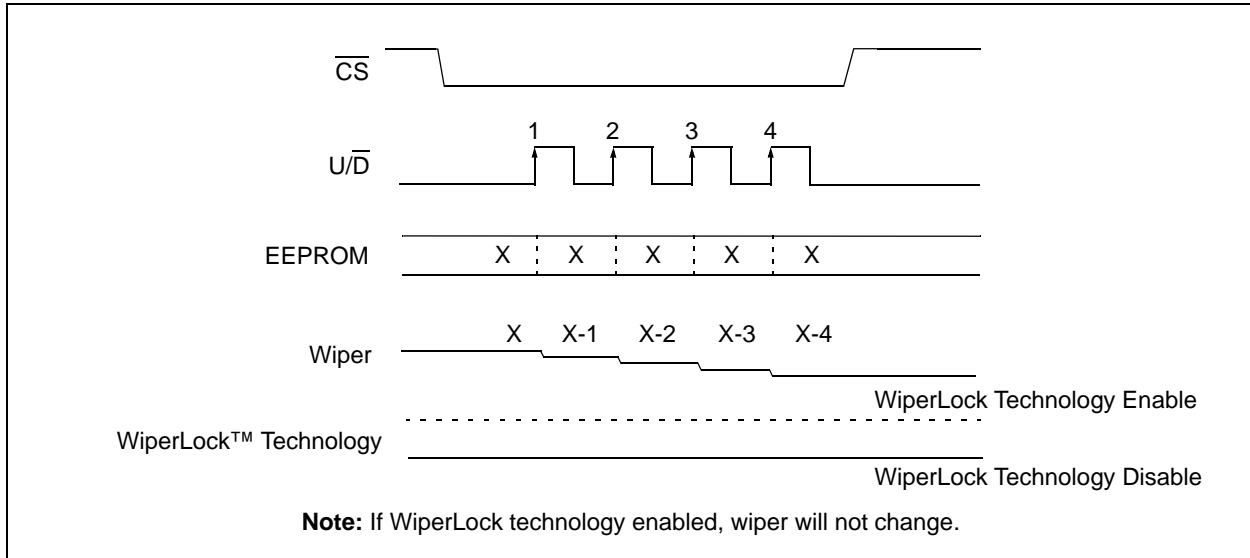

**FIGURE 5-1:** Low-Voltage Increment without Saving Wiper to EEPROM.
Entering Increment mode is achieved by initializing  $U/\overline{D}$  to a high state prior to achieving a low state on  $\overline{CS}$ . Subsequent rising edges of  $U/\overline{D}$  will increment the wiper setting (toward terminal A). Refer to Figures 5-1 and 5-2.
1. If the  $U/\overline{D}$  signal is low when ending Decrement mode, the EEPROM will remain unchanged and the device will be capable of reentering an Increment/Decrement mode immediately since the 5 ms write cycle was not started. See Figure 5-1.